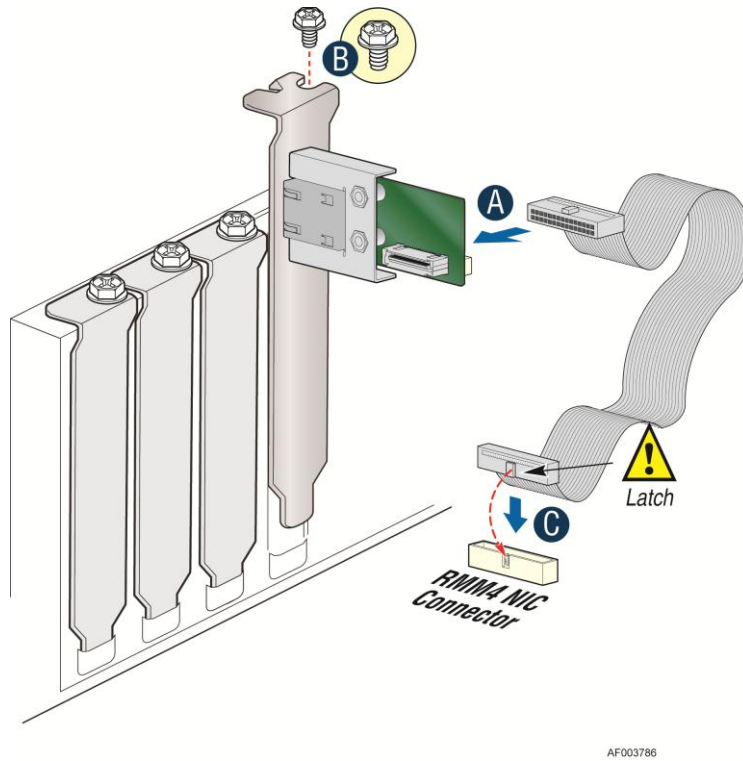

Figure 18: Adding the Intel® Dedicated Server Management NIC module on a 3rd Party Chassis
4. Attach the cable to the cable connector on the Intel® Dedicated Server Management NIC module as shown in Figure 18 (A). Mount the PCI slot bracket with NIC module to the 3rd chassis and secure with screw as shown in Figure 12 (B). Attach the cable to the RMM4 NIC connector (J5C1) on the server board as shown in Figure 18 (C).